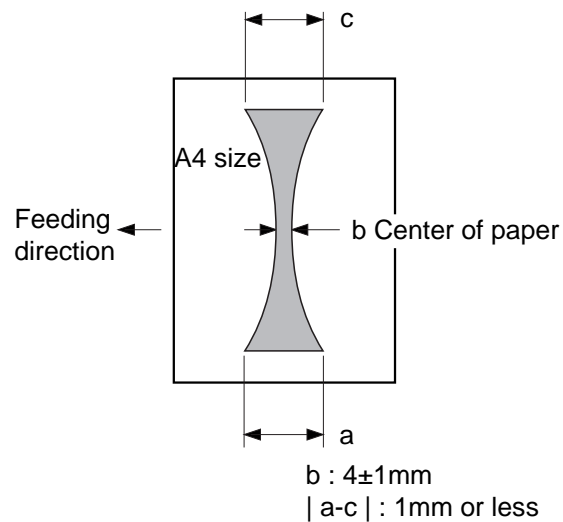

Figure 6-227
- The above operations cause the multifeeder to pick up paper so that you can take measurements as in Figure 6-227; the paper will then be discharged.